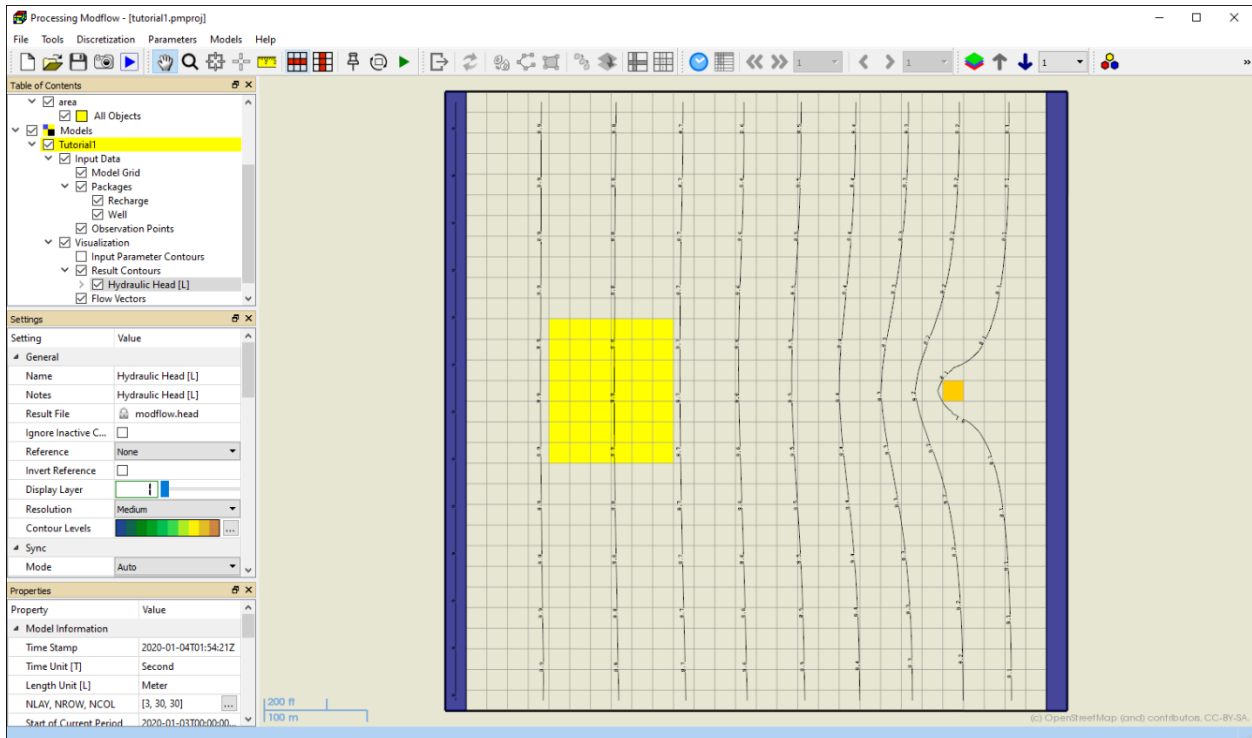

Figure 13. Hydraulic head contours of Layer 1
2. Click OK to accept the default data type “Hydraulic Head” and close the dialog box. PM will add an item, called “Hydraulic Head [L]”, to the TOC, and will display the hydraulic head contours on the Map Viewer. The settings of this item are displayed in the Settings window. The hydraulic head contours in Layer 1 should look like Figure 13.